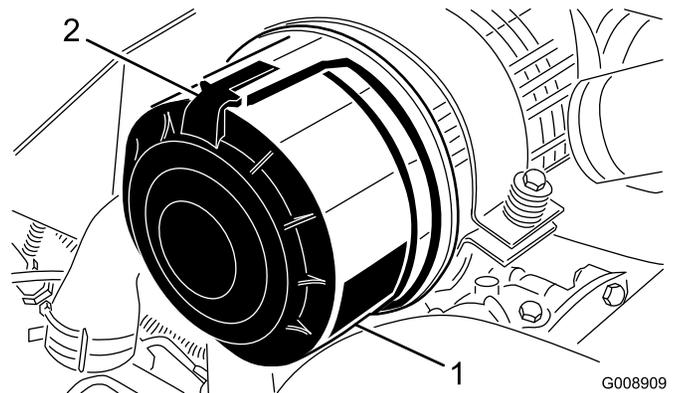

Figure 43
1. Release the latches securing the air cleaner cover to the air cleaner body (Figure 43).